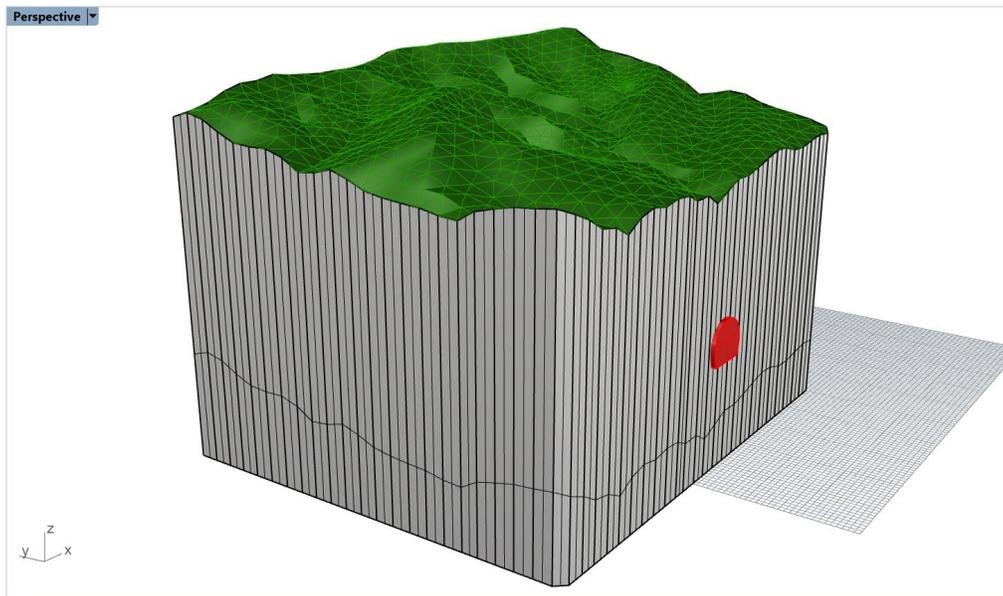

Figure 58: The front part of the tunnel extends through the modeling domain.
25. Turn on the "Tunnel" layer and note that the front and back sections of the tunnel stick out from the domain (Figure 58). Split them by the domain and delete excessive parts.